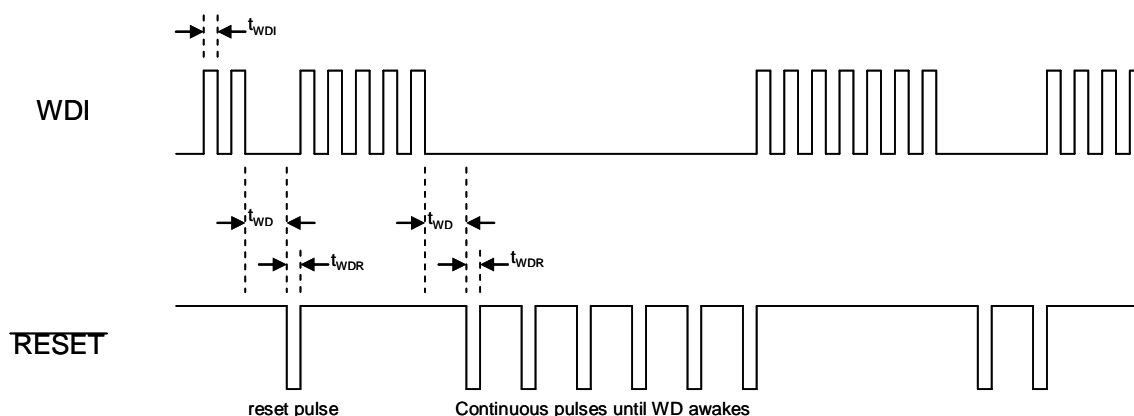

Figure 12. Standard Watchdog – Pulsing Reset Until Watchdog Awakes.
provides a Standard or Advance Watchdog monitoring function. In the defaulted Standard Watchdog mode, if WDI remains either high or low for longer than the timeout period, a reset pulse is generated in an attempt to allow the system processor to re-establish the WDI signal. The reset pulses continue indefinitely until a valid watchdog signal, a rising or falling edge signal at the WDI, is received. The internal watchdog timer clears whenever reset is asserted. The Standard WDI and $\overline{\text{RESET}}$ timing diagrams are shown in Figure 12.
5. When the external monitoring processor cannot issue the necessary WDI signal, Figures 12 and 13.